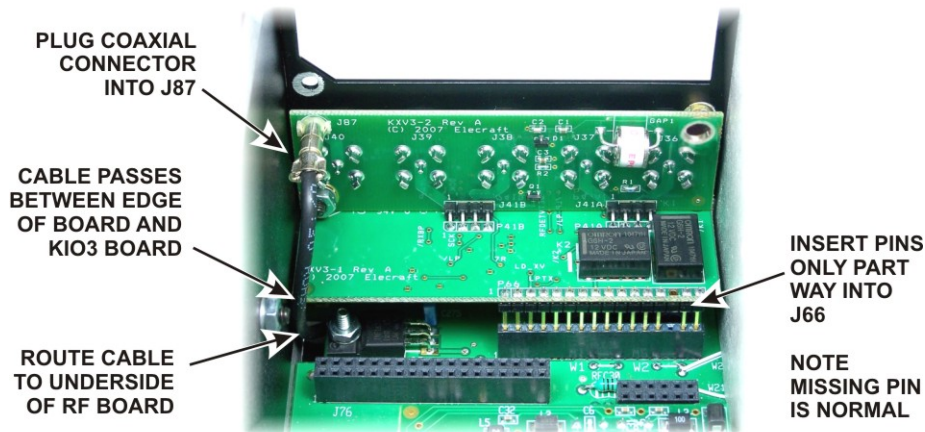

Figure 9. Mounting KXV3 Board.
- Fit the TMP coaxial connector onto J87 on the KXV3 board assembly (see Figure 9).
- Thread the square connector on the TMP cable through the gap between Q3 and the side of the RF board, then plug the KXV3 board assembly into J66 on the RF board with the four BNC connectors facing out through the rear panel (see Figure 9). The pins will just clear the top of J66 when the BNC connectors are up against the top of the opening in the rear panel.